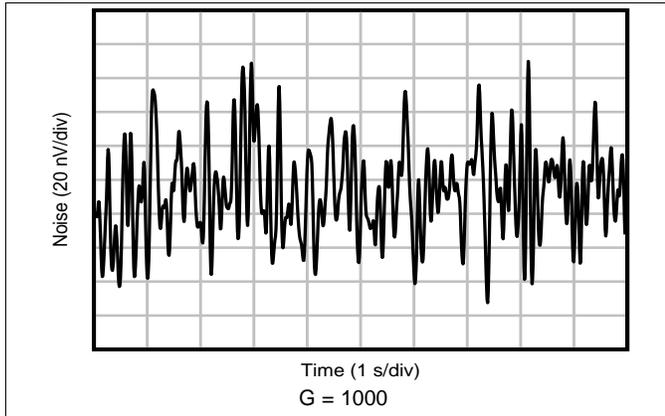

Figure 25. 0.1-Hz to 10-Hz RTI Voltage Noise, G = 1000
0.1-Hz to 10-Hz RTI Voltage Noise, $G = 1000$	<a href="#">Figure 25</a>